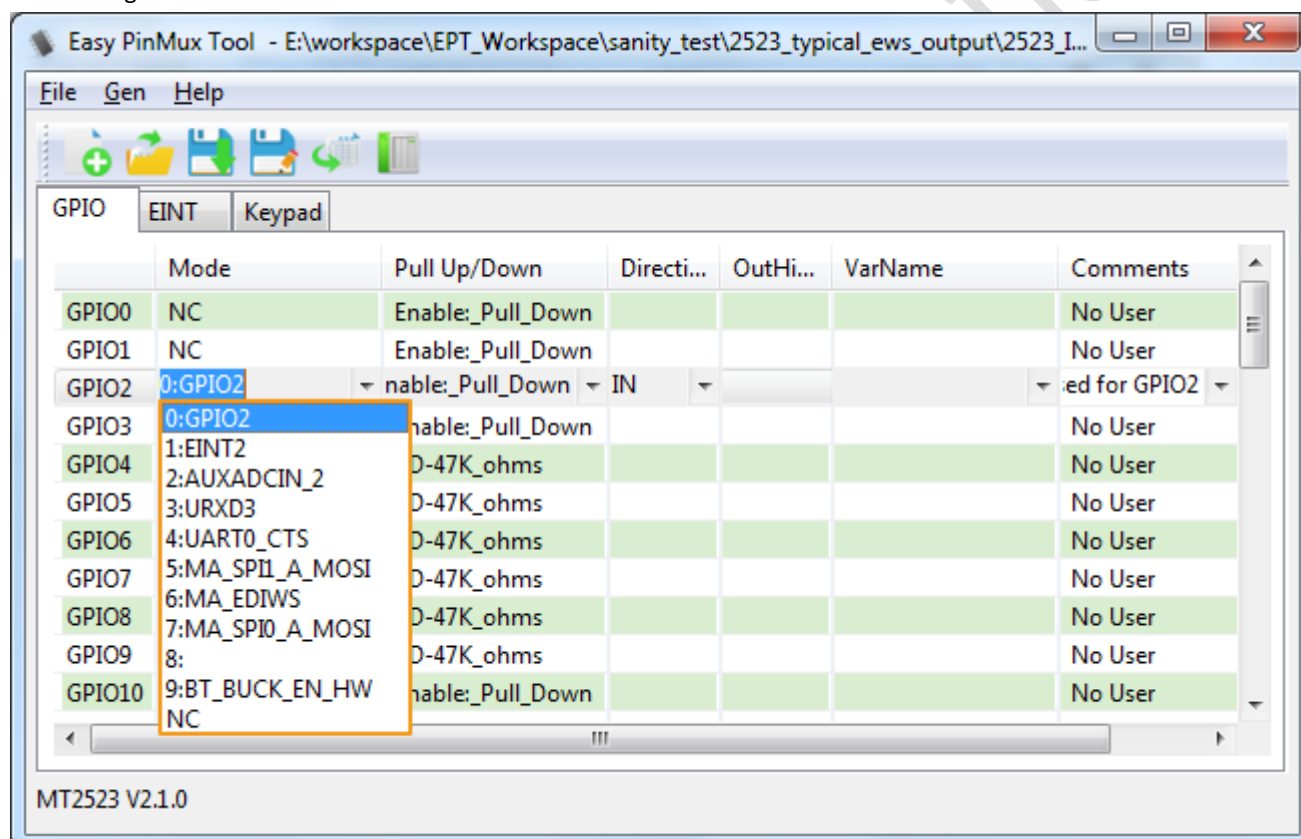

Figure 4. Edit a workspace
- 1) When an existing workspace is opened or a new workspace is created, you can configure its parameters by choosing an item on the dropdown menu according to your requirements, as shown in Figure 4.